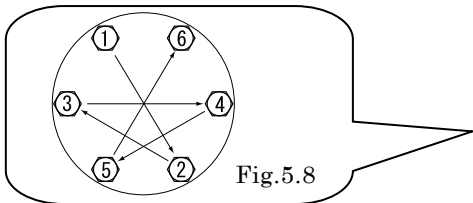

Fig.5.8
- Tighten the bolts gradually in a diagonal sequence with even torque. [Fig. 5.8].